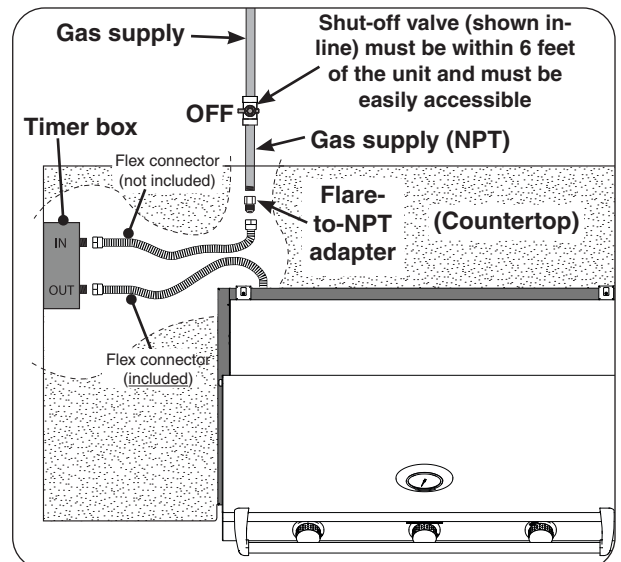

Fig. 19-1 Household LP & Nat. gas diagram
3. Using two wrenches, connect the flex connector coming from the grill to the 1/2" flare adapter labeled **OUT**. See Fig. 19-1. Ensure the connection is tightened securely.
4. **Connect gas source to IN:** Using two wrenches, connect a flex connector (not included) to the 1/2" flare adapter labeled **IN**. See Fig. 19-1. Ensure the connection is tightened securely.
5. Route the flex connector coming from the timer box to the gas supply stub (see Fig. 19-1).